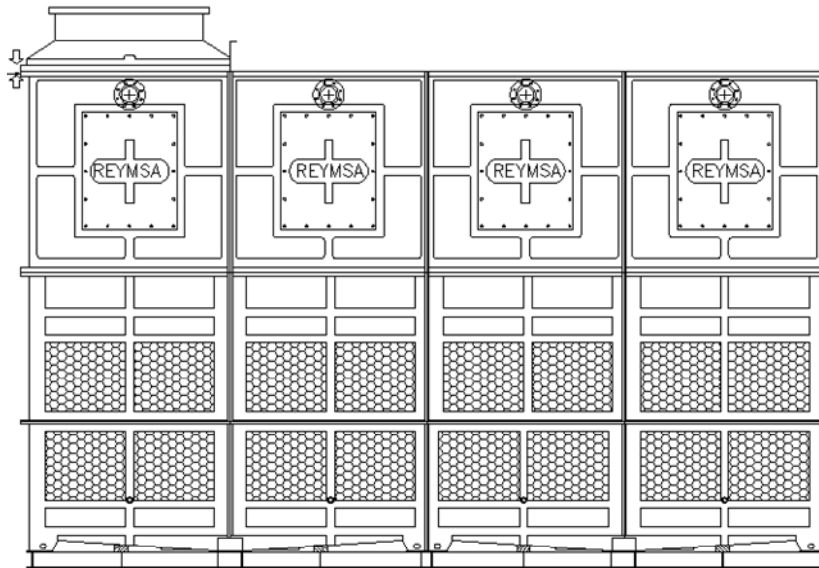

Figure A-30: Tower Cover Section 1 Installation
- L. Place **Tower Cover Section 1** on top of Tower Body Section 1, making sure that the bolt holes on Tower Cover Section 1 are aligned with the perforations on Tower Body Section 1. (See Figure A-30).